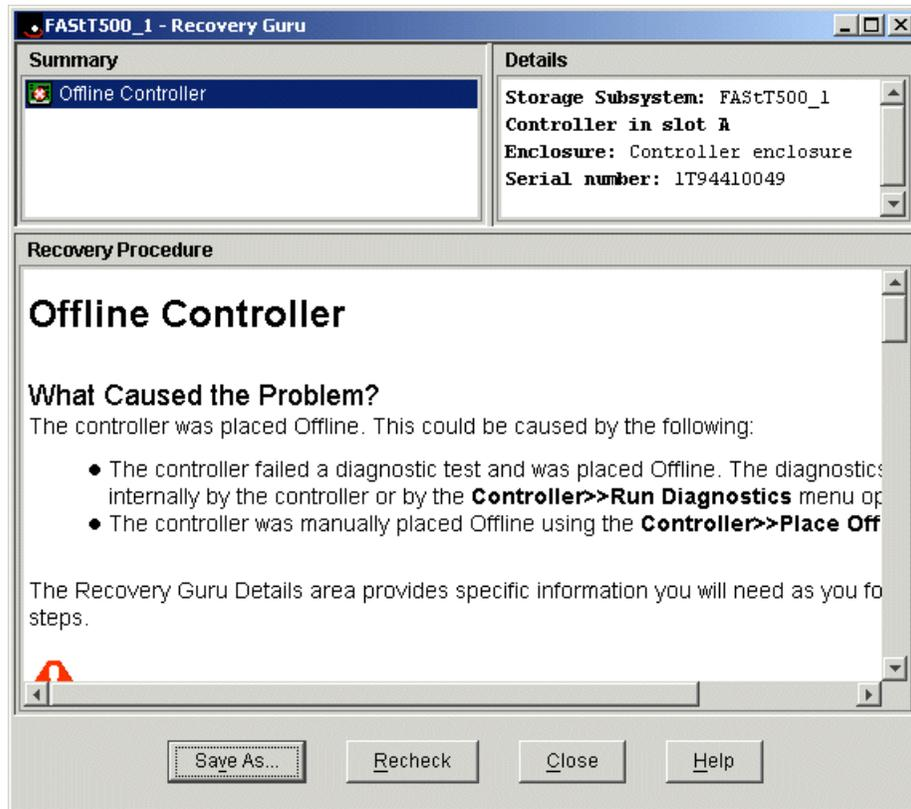

Figure 6-5 Recovery Guru window
3. If there is a problem within the storage subsystem, as in our example, the Recovery Guru window will be displayed, as shown in Figure 6-5: